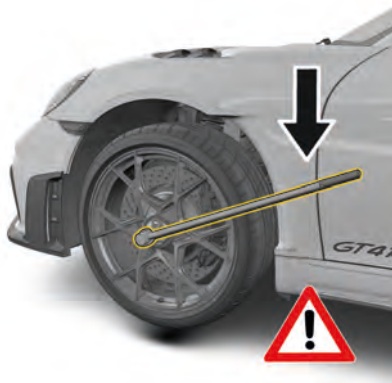

Fig. 208: Tightening the central bolt
7. Tighten central bolt to **442 ftlb (600 Nm)** (Fig. 208).